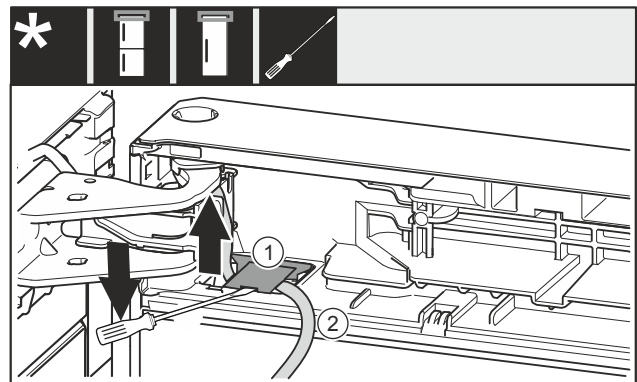

Fig. 23
- ▶ Use the slotted screwdriver to lift the cover Fig. 23 (1) up and pull it out.
- ▶ Pull out the cable Fig. 23 (2).